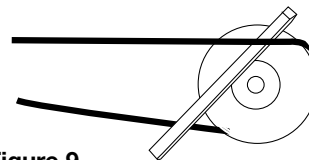

Figure 9
5. Always loosen tension enough to install belts without stretching. Do not force belt(s) see Figure 9. Forcing belts will break the cords and cause belt failure.